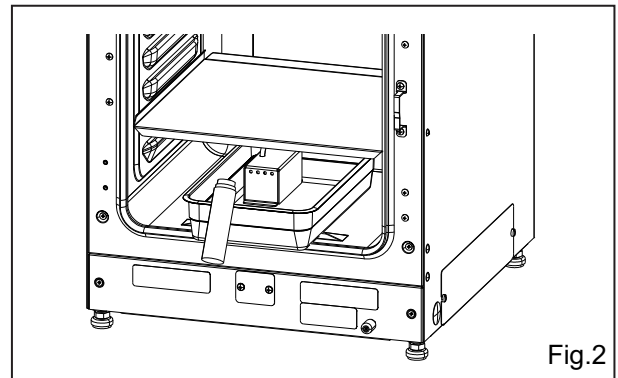

Fig.2
4. Return the humidifying pan to the chamber and pour sterile distilled water (approx. 1.5 L, preheated to 37 °C) (Fig. 2).